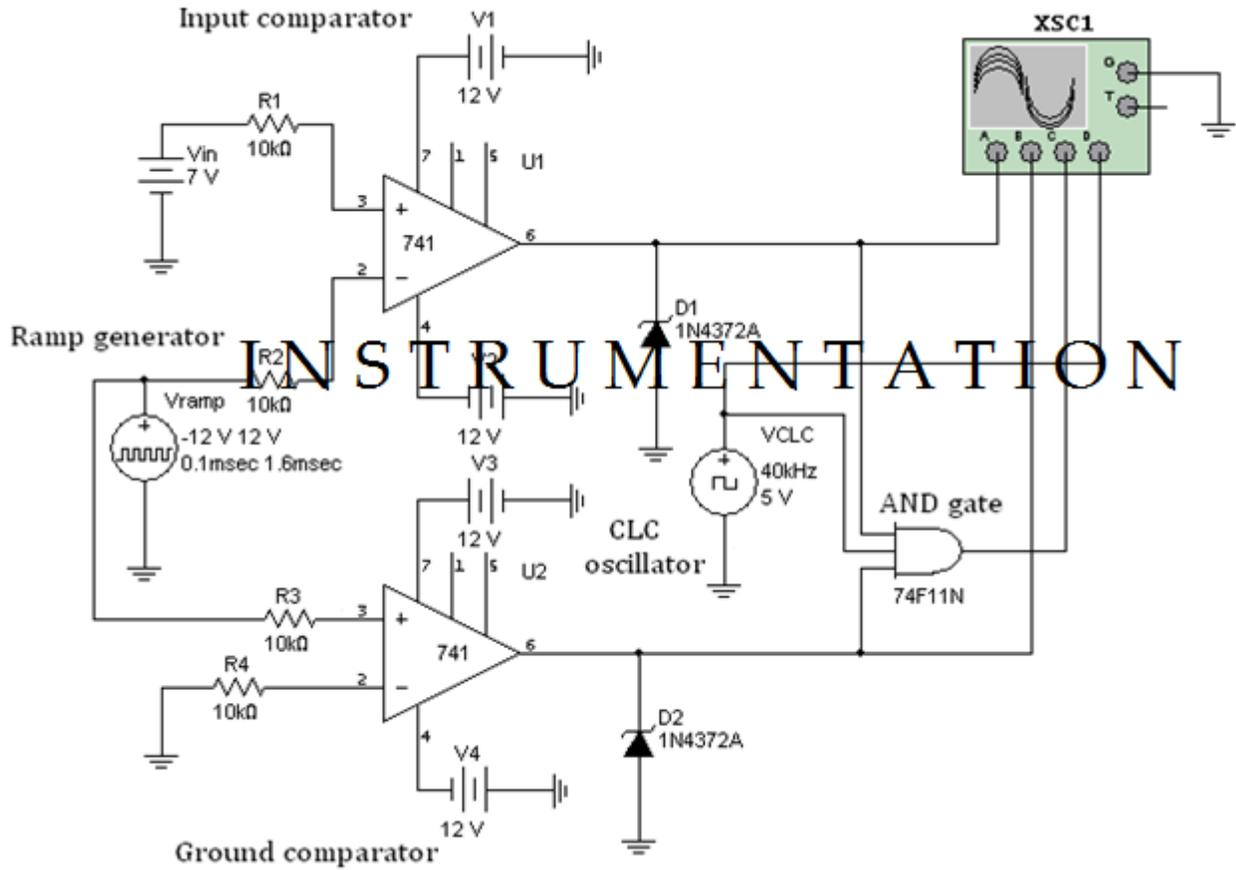

Figure 11: Ramp-type DVM simulated by MULTISIM
The ramp type DVM was simulated by MULTISIM as shown in Fig. 11. The counter and display circuits are not shown. The clock oscillator has frequency of 40 kHz.
3. Construct and simulate the circuit of the ramp type DVM as shown in Fig. 11.